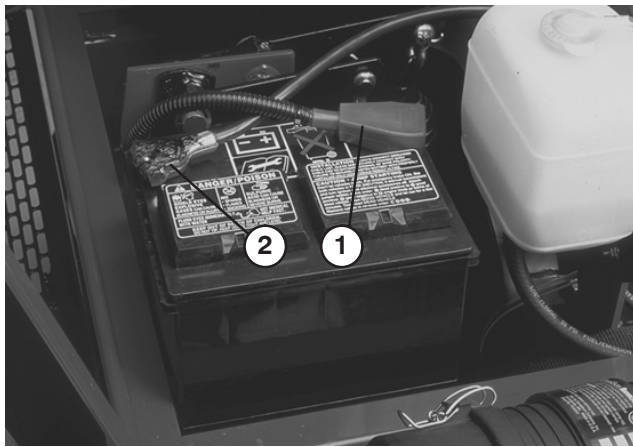

Figure 1
2. Ensure battery is securely fastened in place and check battery charge with a hydrometer. If battery needs charging, be sure at least one battery cable, preferable the positive (+) cable, is disconnected from the battery before connecting the charger (Fig. 1).